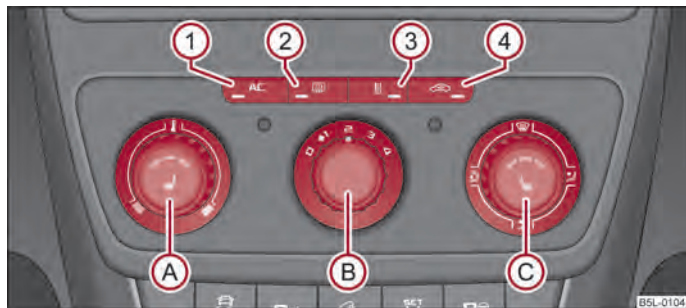

Fig. 91 The air conditioning system: Control elements
The cooling only operates if button **(AC)** \Rightarrow fig. 91 **(1)** is pressed, and the following conditions are met:
- Turn the control dial **(A)** \Rightarrow fig. 91 to the right in order to increase the temperature.
- Press the button **(AC)** **(1)** \Rightarrow fig. 91. The warning light lights up in the button.
- Controls A, B, C and the 1 button and 4 ⇒ fig. 91.
- Press the button  4 ⇒ fig. 91 the warning light lights up in the button.
The recirculated air mode is switched off automatically if the air distribution control C is in position  ⇒ fig. 91. You can also switch recirculated air mode on again from this setting by repeatedly pressing pushbutton . ▶